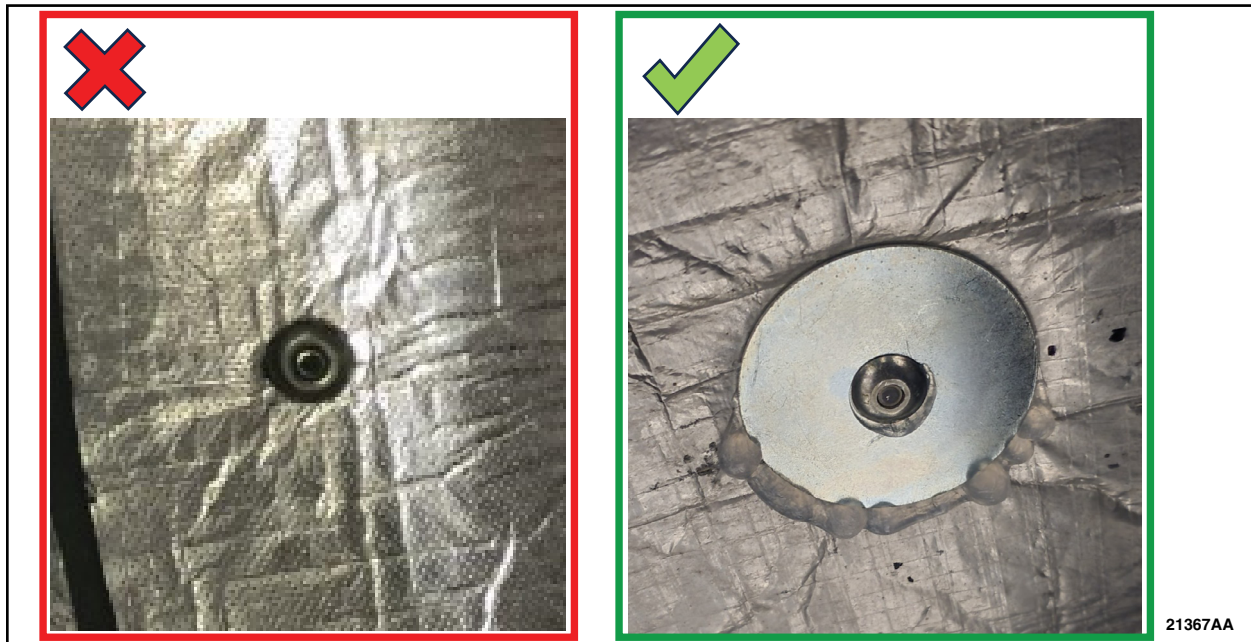

FIGURE 13
19. Using a M18-1/4" rivet gun, install the rivet and washer to the drilled hole. See Figure 13.